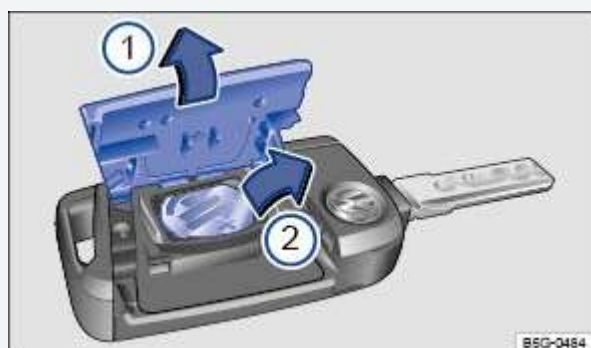

Fig. 27 Remote control vehicle key: Opening the battery compartment cover and removing the old battery.
The battery is on the back of the remote control vehicle key under a cover ⇒ Fig. 27⓪.
- Use a thin object to pry the battery out of the battery compartment ⇒ Fig. 27Ⓜ.